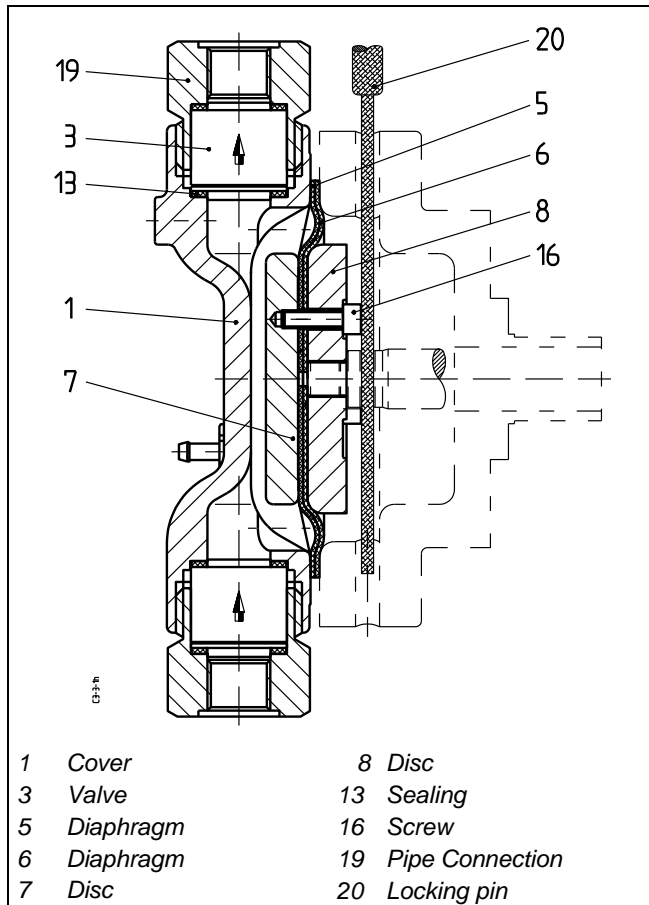
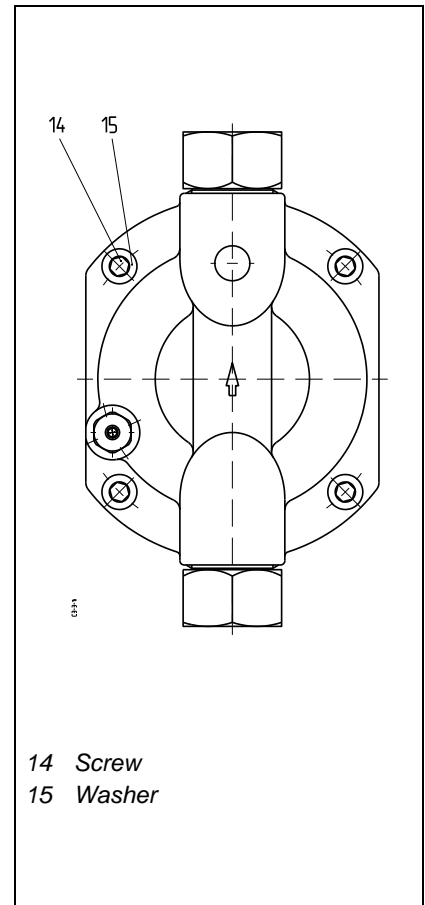

Fig. 3.8: Sectional View
Fig. 3.9: Plan View
The replacement of the diaphragm from the gear unit models G2 is shown in *Fig. 3.8 and Fig. 3.9*.
- Extract the screws (14) with washers (15) uniformly and remove the cover (1).
- To prevent movement of the push rod insert a screw driver or a locking pin (20) through the bores in the yoke and push rod. (see Fig. 3.8).